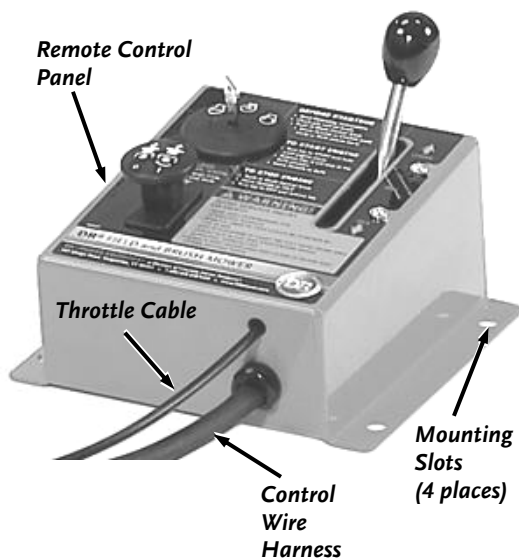

Figure 15
1. Locate the Remote Control Panel (Figure 15) on your Tow Vehicle within reach of the seated Tow Vehicle driver.